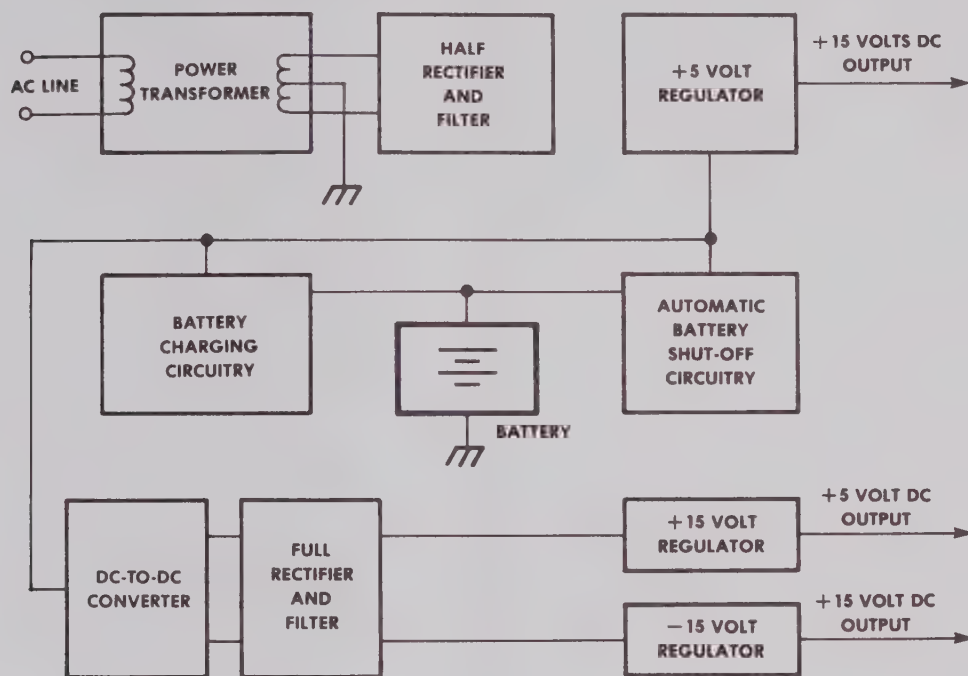

Figure 2.9-3 Block Diagram of Power Supply Board Functions
2.9.4 See Figure 2.9-3 for a block diagram of these functions.